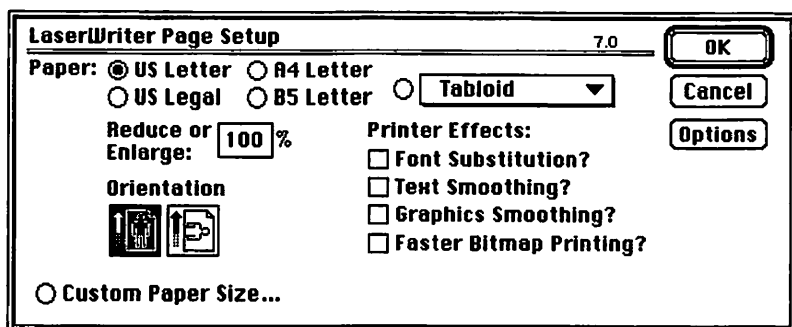

Figure 10 *Page Setup dialog box.*
the FrameMaker example shown in Figure 10, will be displayed.
- In the FrameMaker example used here, a **Custom Paper Size...** radio button is available, as shown in Figures 10 and 11. Clicking this button displays a special